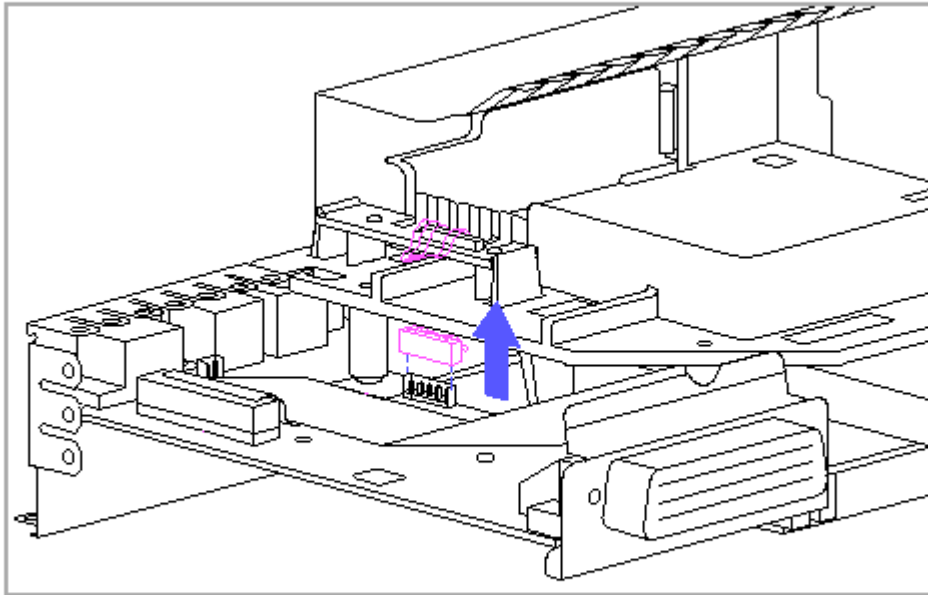

Figure 9-24. Disconnecting the Battery Contacts Board Connector
6. Disconnect the battery contacts board connector from the system board (Figure 9-24).